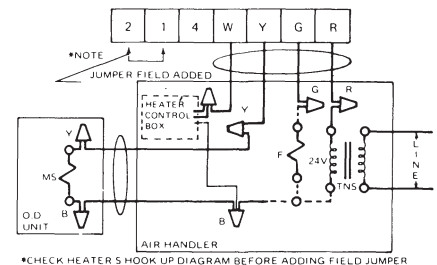

Fig. 3C. Typical Wiring Diagram of air conditioner with air handler and heater hook up.
- b. With fan switch in "Auto" position and Cool-Heat switch at "Heat", the fan should be controlled by the fan switch in the plenum chamber, except in some electric heater installations (Figure 3C) where fan cycles with heaters.